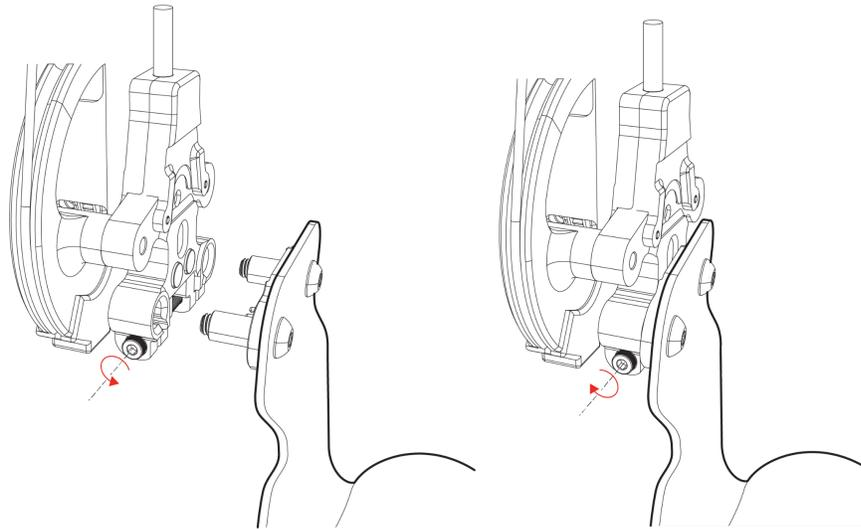

Figure 6. Rotate the safety bolt counter clockwise to loosen (left). Rotate the safety bolt clockwise to tighten (right).
- Use the provided 2.5mm hex screwdriver to unscrew the safety bolt from the metal quick-connect bracket by rotating the screw counter clockwise 1-2 revolutions. (Figure 6)